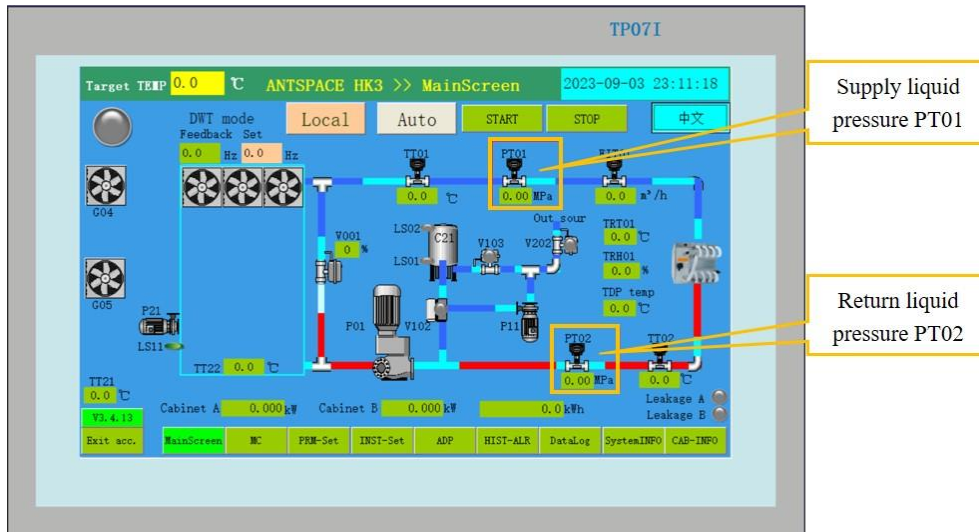

Figure 7.18 System operation interface.
- f. When the static pressure reaches 0.7 bar (refer to Figure 7.18, touch screen reading) or above, the circulation pump can be started for 10 seconds (without stopping the liquid filling pump), and then the circulation pump can be stopped.
- h. When the static pressure reaches 1.0-1.5 bar, stop adding liquid (observe the reading of the main interface pressure sensor PT02, as shown in Figure 7.18).